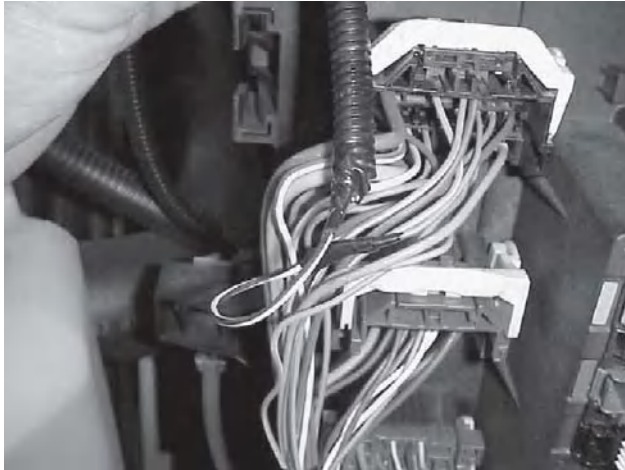

Fig. 15b
- c. Tape and secure the exhaust brake harness's grey wire to the G connectors wiring bundle with electrical tape and a tie wrap.(see figures 15b, 15c, 15d, and 15e)